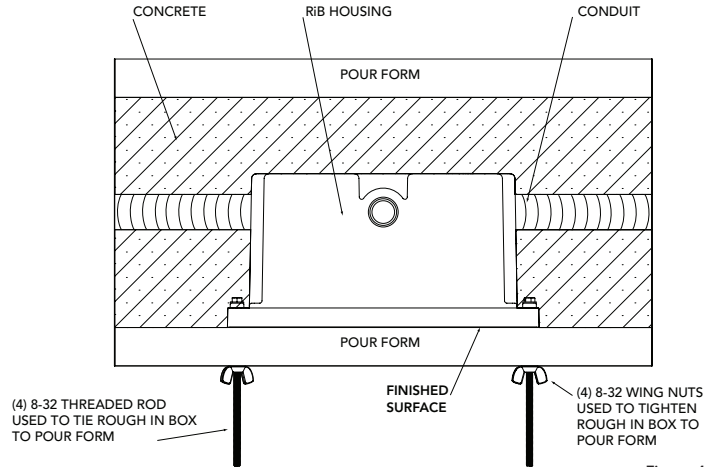

Figure 4
1. Install (4) threaded 8-32 rods (supplied) into RiB housing by piercing through vinyl label in specified location. Hand tighten until secure.
2. Attach RiB housing to pour form using (4) wing nuts provided so the front face of the RiB housing will be flush with the finished surface (fig. 4).
3. Connect conduit to RiB housing (fig. 4).
4. Pour concrete. NOTE: DO NOT PUMP OR DROP CONCRETE DIRECTLY ON TOP OF THE RiB HOUSING (fig. 4).